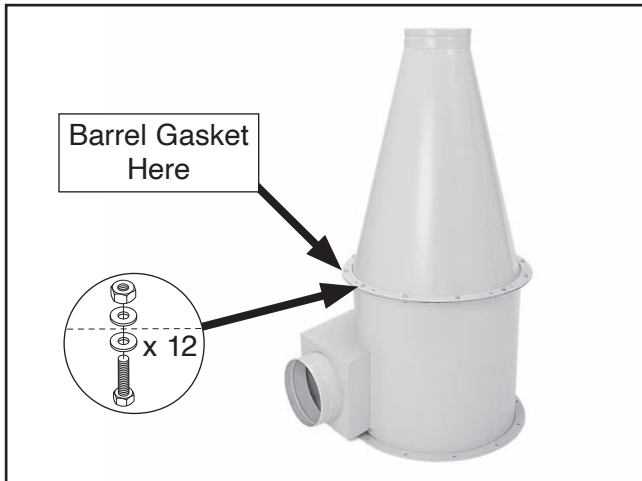

Figure 13. Cyclone funnel attached to intake barrel.
- Attach cyclone funnel to intake barrel with barrel gasket between them, as shown in **Figure 13**, with (12) $\frac{5}{16}$ "-18 x 1" hex bolts, (24) $\frac{5}{16}$ " flat washers, and (12) $\frac{5}{16}$ "-18 hex nuts.